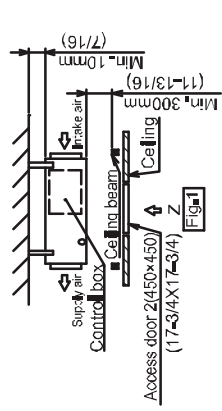

Fig.5 (Viewed from the direction of the arrow Z)
- Create access door 4 below the control box and the unit as shown in Fig.5.